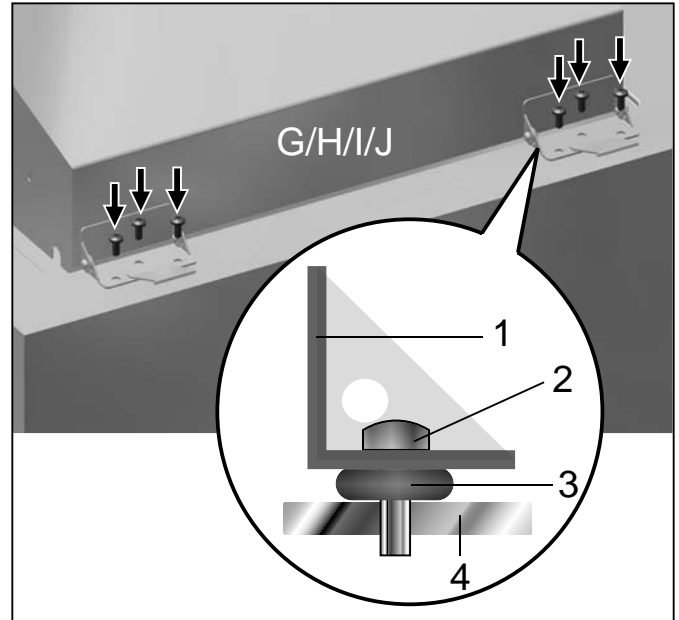

Fig. 8 Screw the special lid tight to the waterbath
4. Place the special lid G/H/I/J onto the waterbath, push six screws through the hinges of the lid and push the O-rings onto the screws (Fig. 8).